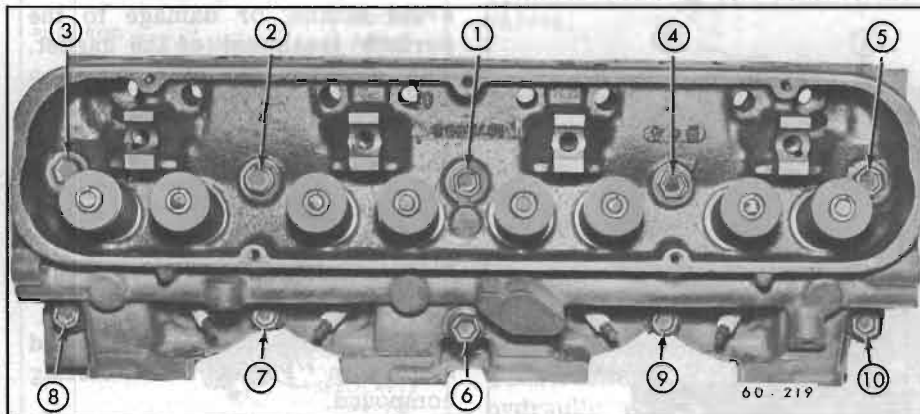

Figure 60-312—Cylinder Head Bolt Tightening Sequence
5. Install head bolts. Tighten the bolts a little at a time about three times around in the sequence shown in Figure 60-312. Give bolts a final torque in the same sequence. Torque to 100-120 lb. ft.